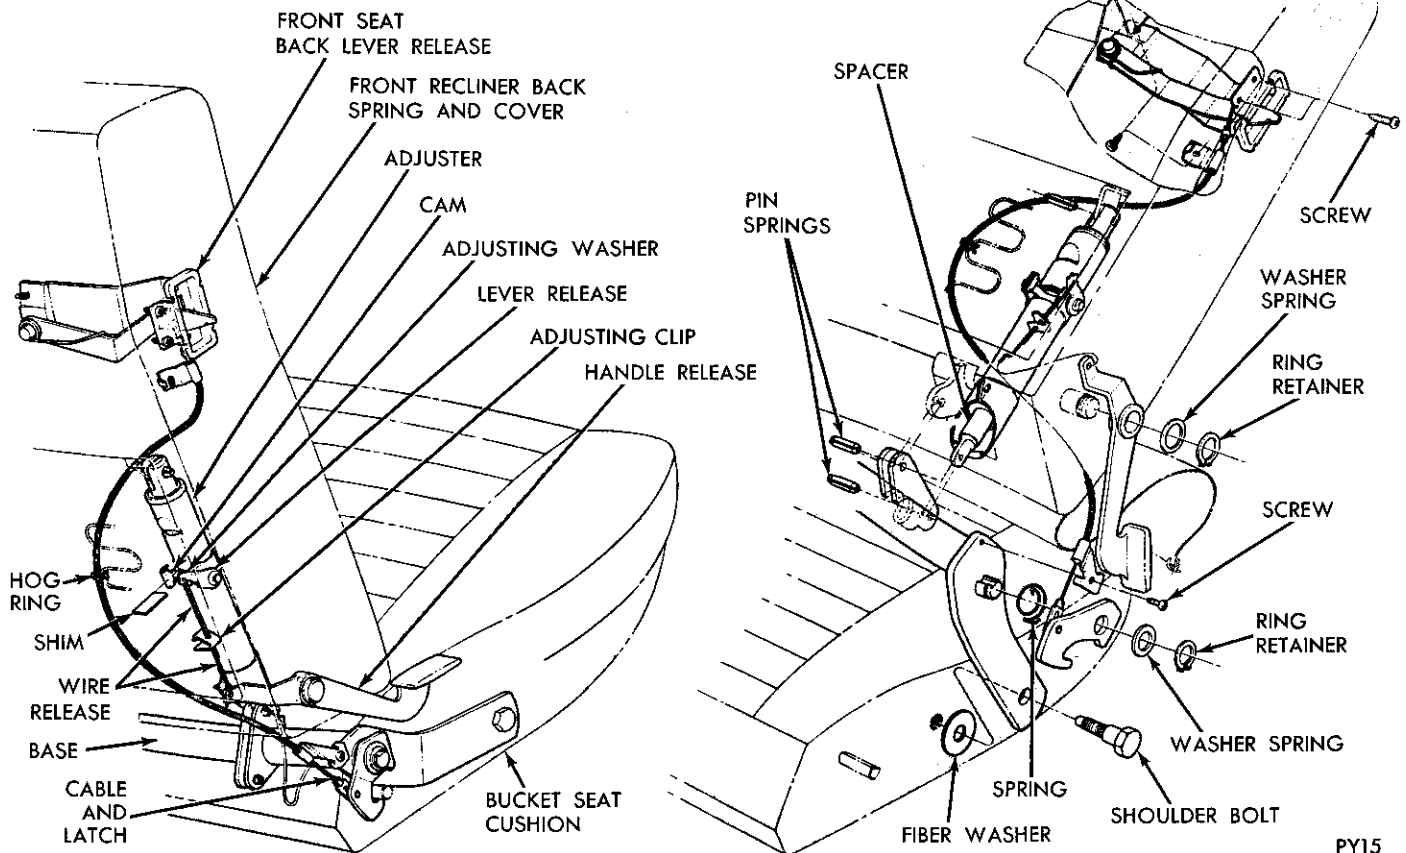

Fig. 11—Reclining Seat Mechanism (Bucket Type)
Bucket Type (Fig. 11)**Installation**
- (1) Before pad support and cover are assembled, attach lever release to front recliner.
- (2) Insert upper end of cable into hole in lever. Attach cable and latch to front spring and cover using screw.
- (3) Install spacer on rod end of adjuster. See Figure 11. **(THE SEAT CANNOT BE ASSEMBLED WITHOUT SPACER).**
- (4) Insert adjuster into back of recliner with clevis end on bracket and rod end protruding through the opening in bottom recliner.
- (5) Align holes of clevis in adjuster, with hole in bracket on front recliner. Drive pin spring through bracket and sides of clevis on adjuster.
- (6) Cut clearance hole in side facing of cover so that the release handle shaft is accessible.